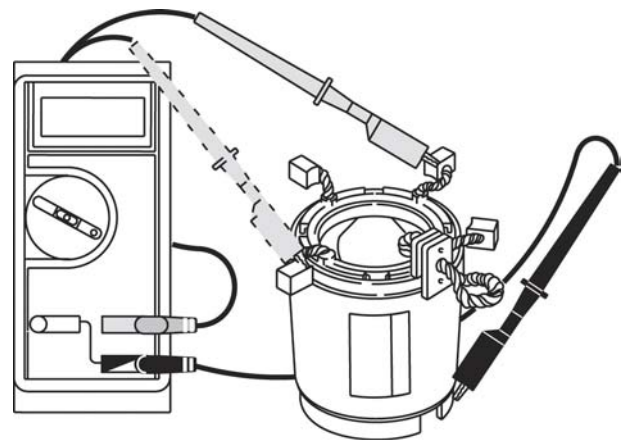

Fig. 111
3. Attach either test lead to starter housing, Fig. 111.